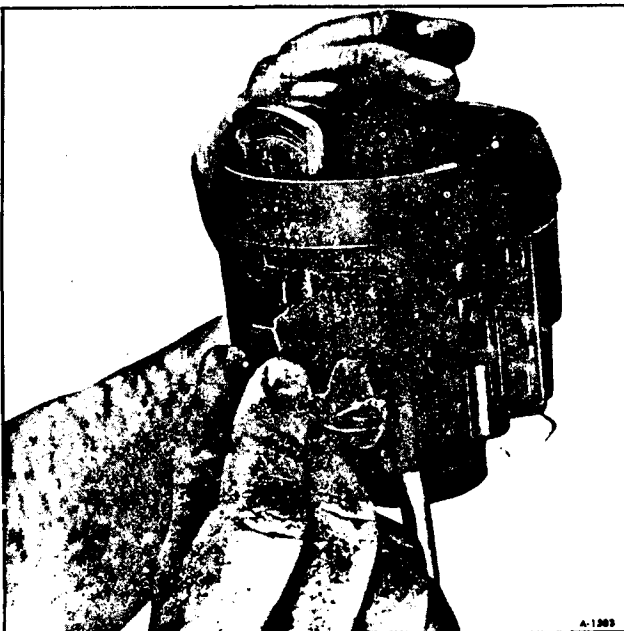

Figure 101—Removing Tilt Lever Shield
28. Remove tilt lever opening shield from housing (figure 101).
19. Install tilt lever opening shield in housing (figure 101).